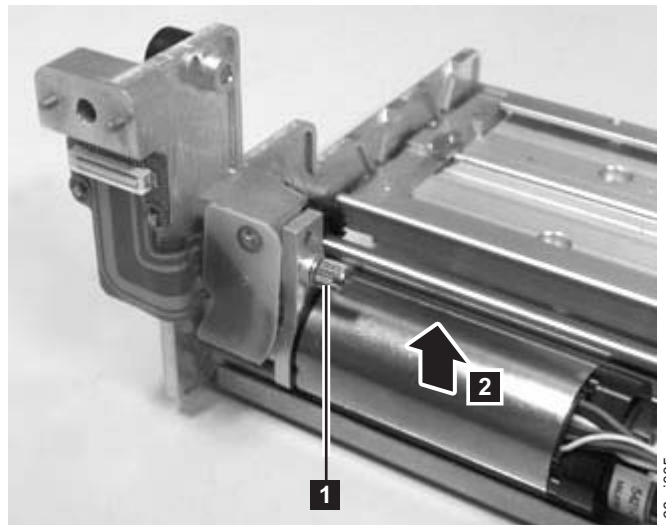

Figure 8-59. Y motor thumb screw
6. Loosen the thumb screw (**1** in Figure 8-59), slide the motor to the left, then lift the motor out of the Y-axis Assembly (**2** in Figure 8-59).